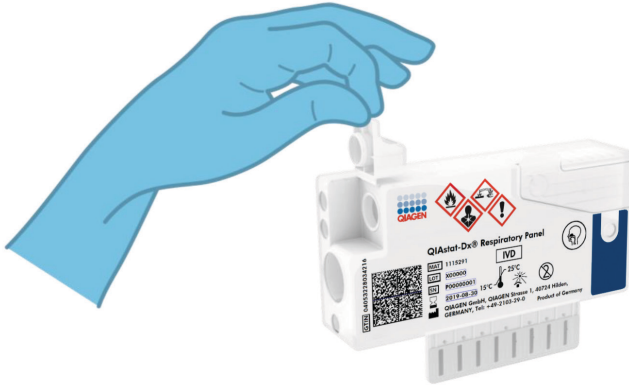

Figure 7. Opening the sample lid of swab port.
4. Open the sample lid of the swab port on the left side of the QIAstat-Dx Respiratory Panel Cartridge (Figure 7).